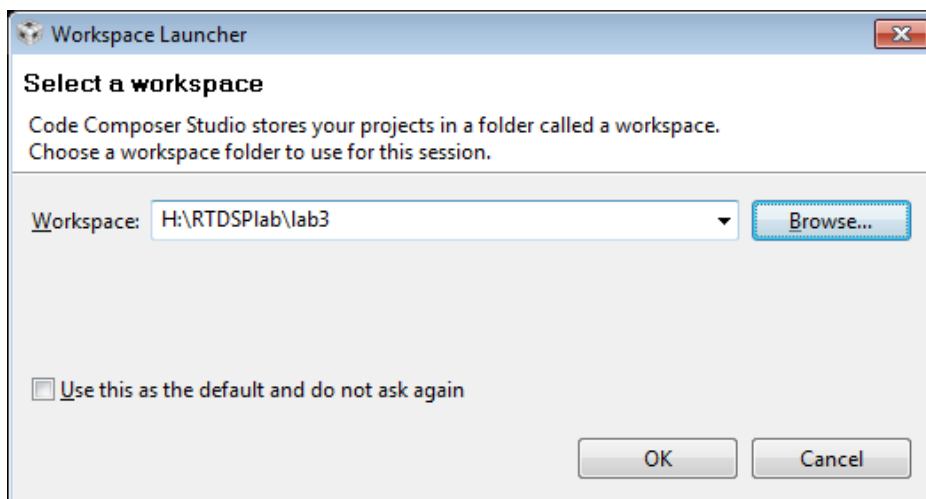

Figure 1: Selecting the lab3 project
- Start up CCS (if CCS is already open use **file→Switch Workspace** to the same effect). When asked to choose a workspace hit the browse button and select the *lab3* folder you just created. See figure 1.